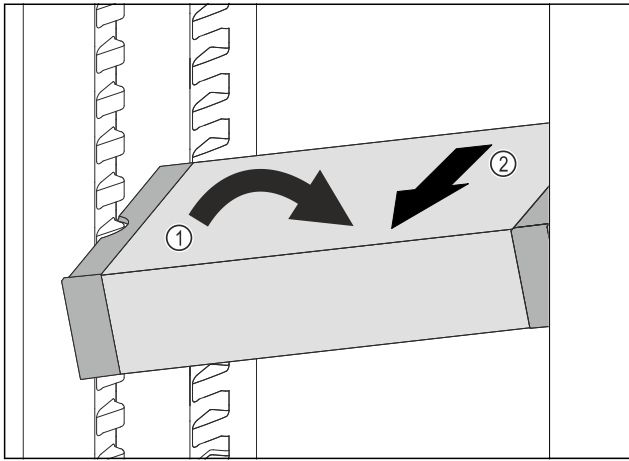

Fig. 99
- ▶ Set VarioSafe in refrigerator compartment at an angle. Fig. 99 (1)
- ▶ Take VarioSafe out to the front. Fig. 99 (2)